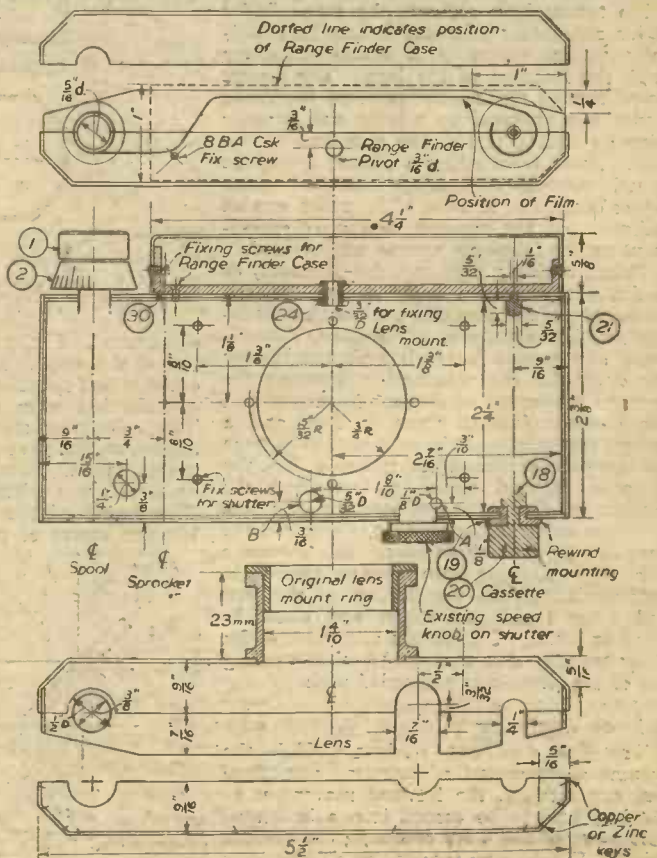

Fig. 2.—Details of camera case.
The lens is mounted so that the front face of the lens ring is the focal length of the lens, in this case 5cm. from the film plane of the shutter. The view finder is mounted on the base plate (30) inside the range finder cover, as shown in Fig. 4. The holes in the case, marked A and B (Fig. 2), are for the shutter release button and the catch release respectively.
Whilst the case is still round the block do all the marking out. Scribe a line $9/16$ in. from both the back and the front for the depth of these two sections. On the front mark the centres for the lens hole, shutter mounting screws, film stop, cable release and button release. These last two are marked B and A respectively in Fig. 2. On the top mark a centre on each scribed line for the winder knob and cassette pivot, squaring these lines round the case for the centres for the tripod bush and rewind knob on the bottom. Also square the centre line of the lens across the top. This is the line from which the range finder assembly is set out. Now that the marking out is done, with a fine hack-saw, saw down between the scribed lines in the top and bottom and remove from the block. Don't saw unnecessarily deep into the block because it will be required again. File down to the lines and finish on a sheet of emery cloth laid on a flat surface, ensuring that the point is a fit. It is useful to have a second block of wood, this time $4\frac{1}{2}$ in. x $2\frac{5}{16}$ in. x $\frac{1}{2}$ in.,
of the same material $5\frac{7}{16}$ in. x $1\frac{1}{2}$ in. Mark out and cut the corners to 45 deg. as indicated on Fig. 2. Then prepare a block of hardwood $4\frac{1}{2}$ in. x $2\frac{5}{16}$ in. x $1\frac{1}{2}$ in. The accuracy of the case depends upon this block, so make sure that the edges are square to the face. Place the back and front of the case on each side of the block and lightly wire together with two binding wires. Tap the top and bottom into position, making sure that they are tight against the block and that the back and front project an even amount both top and bottom. There will be a gap of $1/16$ in. at the ends, between the back and front pieces. Soft solder the joints, ignoring the gap at the ends. Clean off the top and bottom overlap with a file and very lightly chamfer the edges. With a piercing saw cut the slots for the keys where indicated on the drawing. Make these cuts about $3/32$ in. deep and note which way they slope. They are practically useless if sloped the wrong way. For the keys use copper or zinc of a thickness that will push into the slot, and solder in position. These metals will give the necessary strengthening to the joint and have the advantage that the bit of the triangle that juts into the case can be removed with a "wood" chisel when the case is sawn through. After soldering, file these keys down flush with the surface.